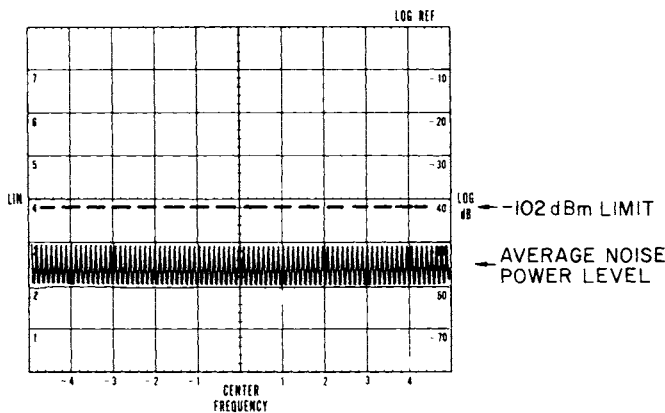

Figure 4-2. Average Noise Level
3. Observe the average noise power level on the CRT. It should be lower than -102 dBm as shown in Figure 4-2 as FREQUENCY is tuned from 1250 MHz to 100 kHz. Make sure the LOG REF LEVEL Vernier is set at 0 during the measurement.